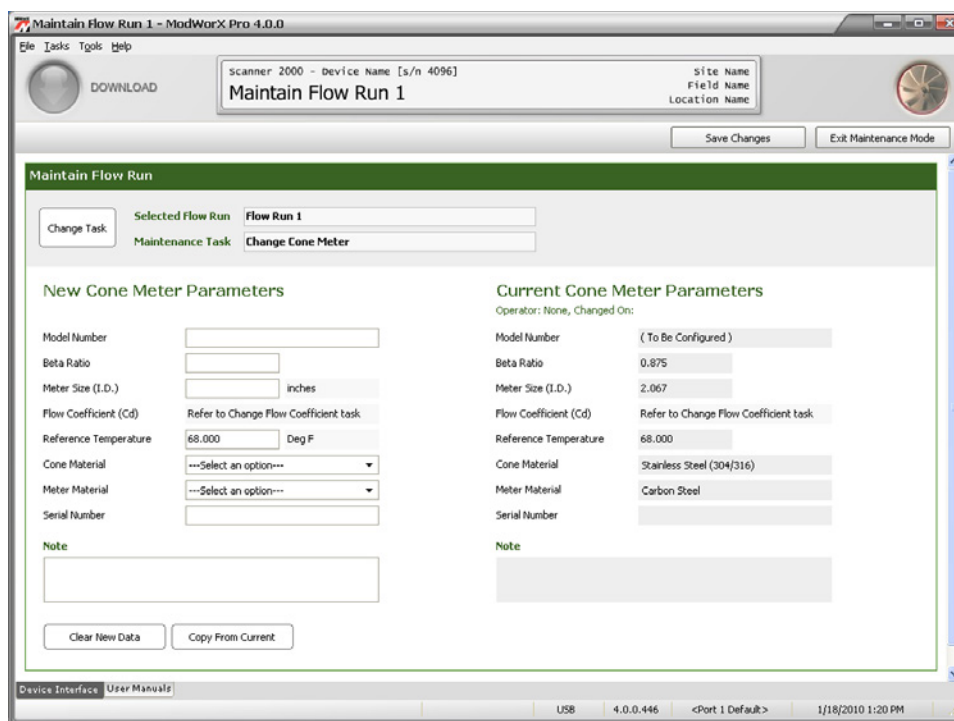

Figure 10.5
- b. Click **OK** to save your selections and return to the Maintain Flow Run screen (Figure 10.5, page 146).